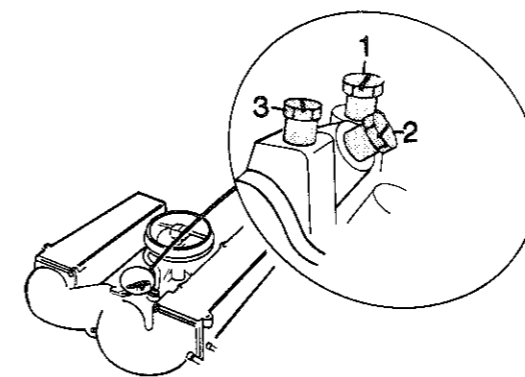

Fig. 3.4 Idle adjustment screws on manifold - B28 E (Sec 10)
- 2 With the engine warmed up, turn all three idle adjustment screws fully clockwise. From this position unscrew the balance screw indicated in Fig. 3.4 by five complete turns. Do not touch the other screws.